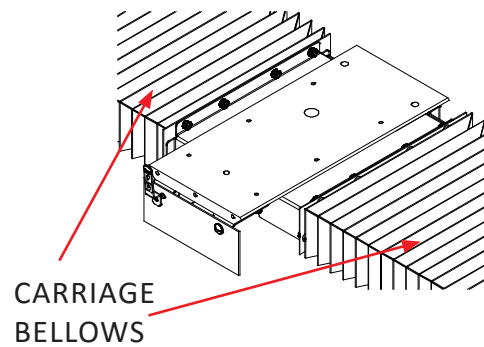

FIG. 2
2. Thoroughly clean the traverse rails weekly. Flood spray with CRC 3-36 or an equivalent lubricant, if the optional traverse carriage bellows are installed lift to access the traverse rails (See FIG. 2). Move the carriage back and forth through its full range of travel. With a clean rag, wipe off the excess lubricant. Move the carriage back and forth and wipe the rail after each pass. Repeat until the rail feels dry.